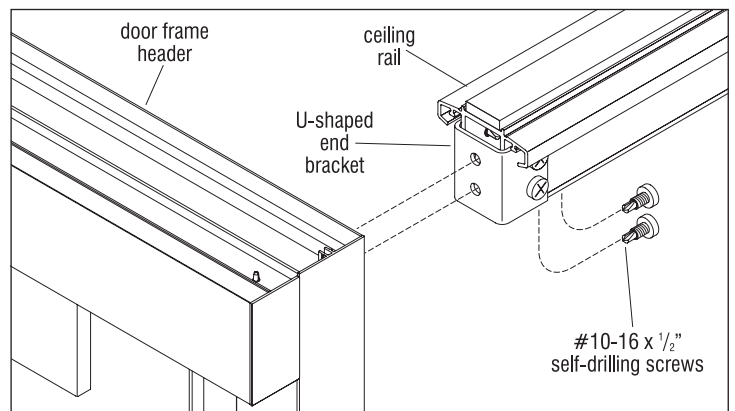

Figure 7
9. Align ceiling rail so trim sits flush when installed. Use the supplied #10-16 x 1/2" self-drilling screws to attach the ceiling rail to the door frame header (Figure 7).